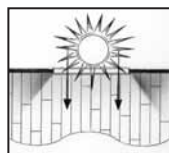

Figure 2
- Decide the direction of the floor installation in the room. Planks installed parallel to windows accent the floor the best. Floors should be installed perpendicular to the floor joists. Stiffen subfloors as necessary to prevent vertical movement. (Figure 2)